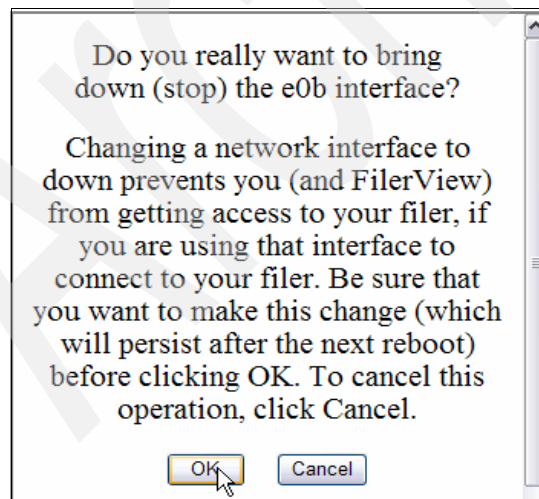

Figure 9-19 Confirmation Message
3. A confirmation message is displayed, as shown in Figure 9-19. Click **OK**.